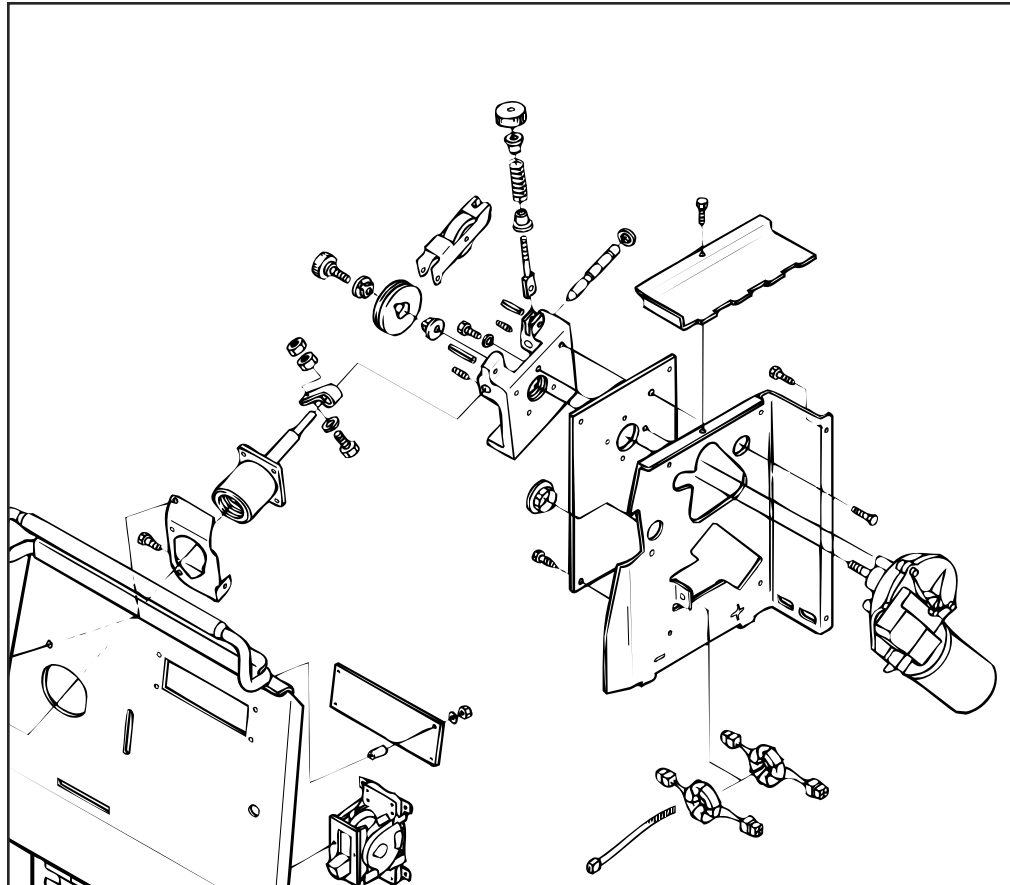

FIGURE F.13 - Wire Drive Assembly Removal
3. Remove the drive roll. See Figure F.13.